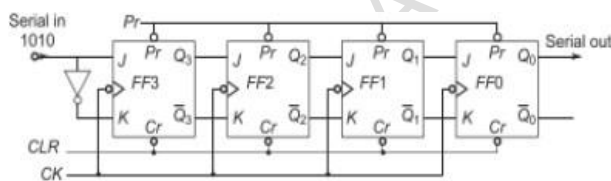

**Fig. 10.15** 3-to-8 decoder implementation
- Figure 10.15 shows the 3-to-8 decoder implementation.